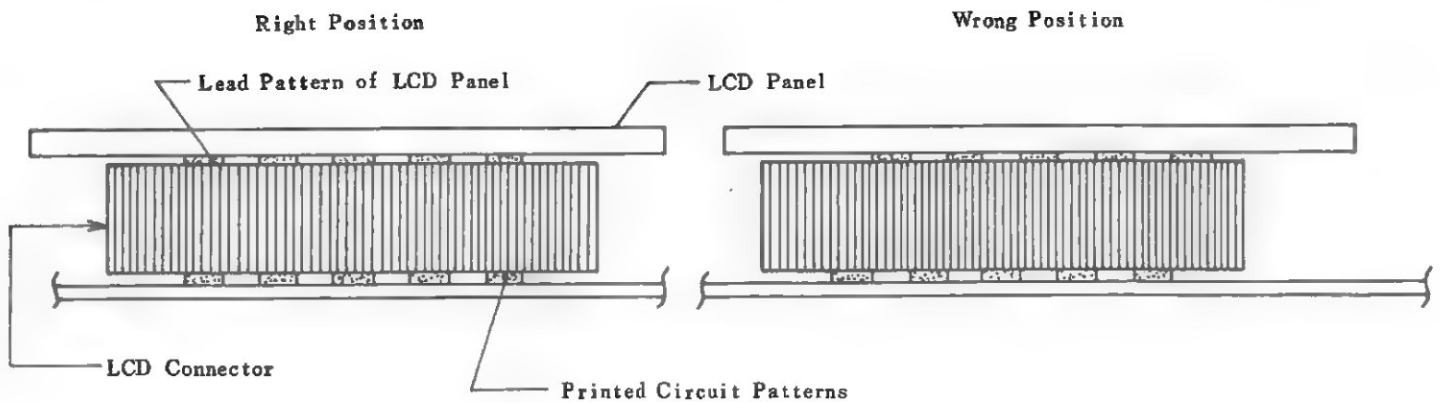

Fig 7
- b) Align the Lead Patterns of LCD Panel and Printed Circuit Patterns correctly, shown in (Fig 7) and fix firmly with screws. If it is not correctly position, LCD frame counter does not display.